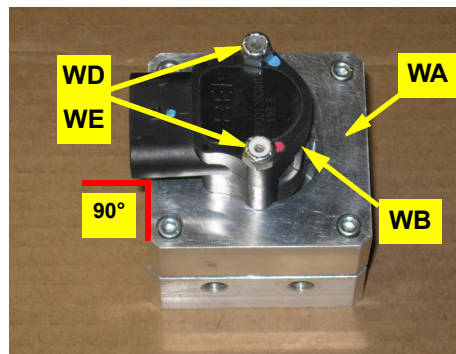

Figure 1a: Prepared WAS housing\connector
- a. Using the provided hardware **WD** and **WE**, attach the WAS **WB** to the WAS housing **WA**. Install the bolts up through the bottom of the housing. The WAS wire connector **WB** can be mounted 90° to any of the WAS housing sides (Figure 1a).